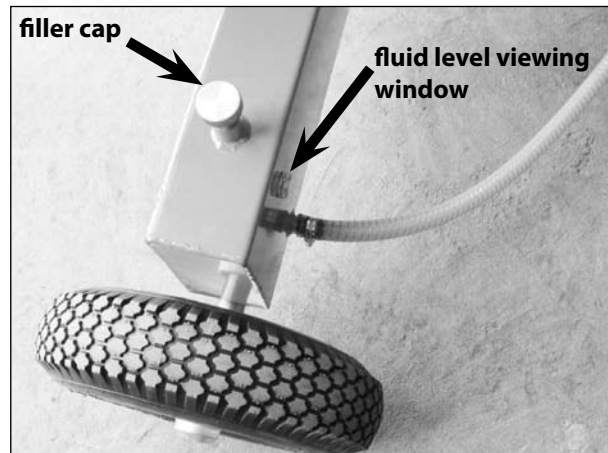

Figure 16
1. With the log splitter on level ground, remove filler cap. **SEE FIGURE 16.**
2. Using a funnel in the fill spout, fill the tank with hydraulic oil until fluid is visible through the fluid level viewing window. **SEE FIGURE 16.**